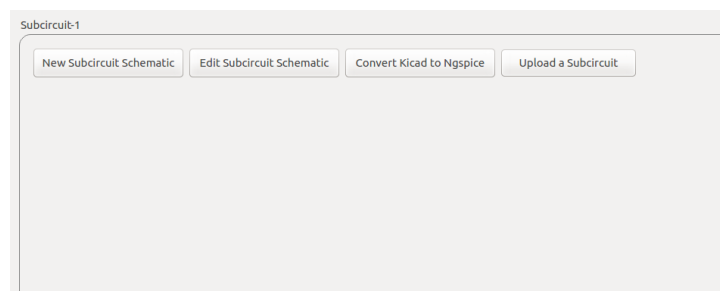

Figure 8.1: Subcircuit Window
Subcircuit is a way to implement hierarchical modeling. Once a subcircuit for a component is created, it can be used in other circuits. eSim provides an easy way to create a subcircuit. The following Fig. 8.1 shows the window that is opened when the Subcircuit tool is chosen from the toolbar.
2. Switch to the eSim main window and click on **Convert KiCad to Ngspice button** in the **subcircuit builder tool**. as shown in Fig. 8.1